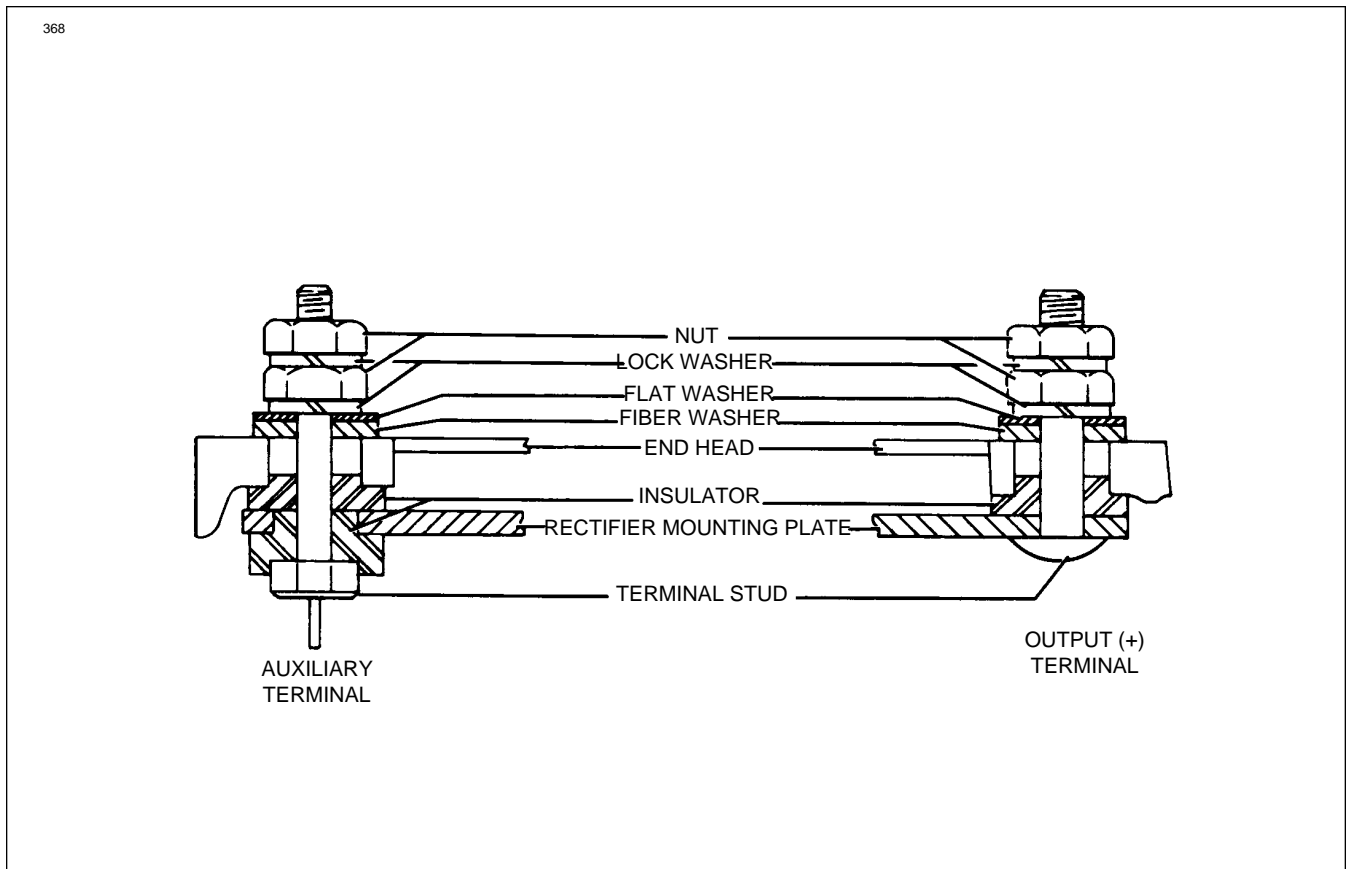

Figure 11-12 Terminal Assembly
c. Reassemble the rectifier mounting plate studs and insulators, making sure they are in the correct order. (Refer to Figure 11-12).